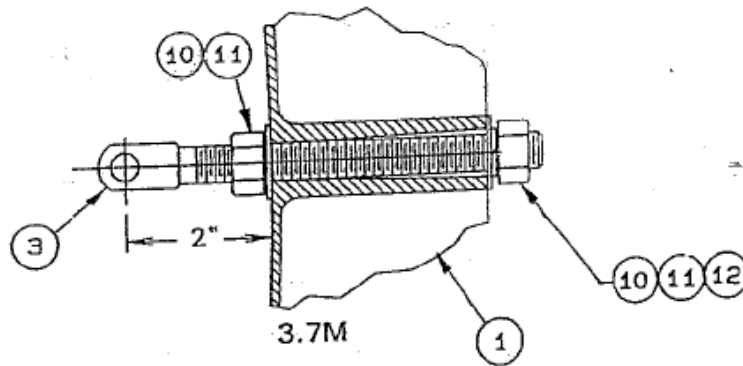

FIGURE 2.1-1
Refer to figure 2.1-1 and the parts list (table 2.4) and follow the instructions in the listed sequence.
4. Run the 1/2-13 hex nut (item# 10) up the threads of the clevis (item# 3), and place a 1/2" flatwasher (item# 11) against the nut. Adjust the nut until the distance from the far side of the flatwasher to the center of the clevis hole is 2" as referenced in figure 2.1-1.
5. Place the clevis assembly through the hole in the reflector petal (item# 1) from the front and secure with the 1/2" flatwasher, lockwasher, and hex nut (items # 10,11,12) as shown in figure 2.1-1. Hand tighten only.